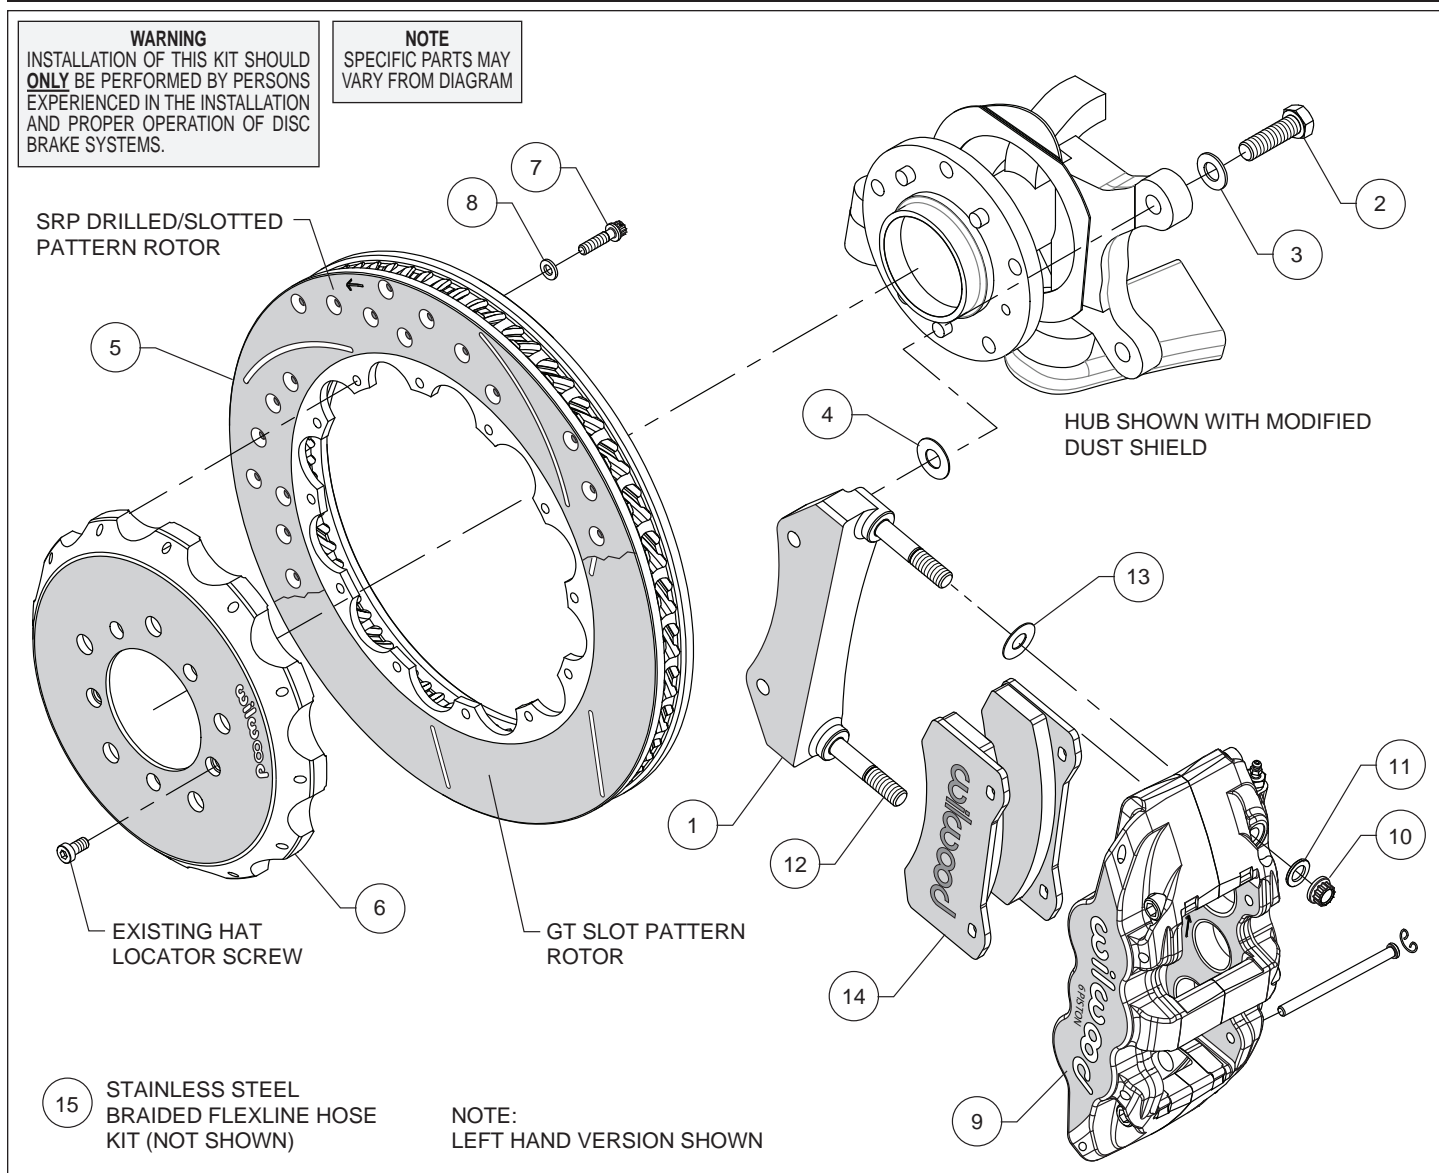
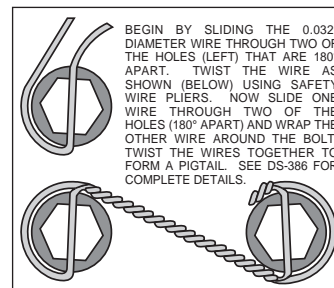

Figure 1. Typical Installation Configuration
Figure 3. Safety Wire Diagram
**Assembly Instructions** (numbers in parenthesis refer to the parts list and Figure 1 on the preceding pages):
- The caliper mount bracket (1) should initially be installed with clean, dry threads on the mounting bolts. Orient the bracket as shown in Figure 1 and Photo 2, and install using bolts (2) and washers (3). Initially place one .033 thick shim (4) on each bolt between the bracket and upright, Figure 1. Temporarily tighten the mounting bolts. **NOTE:** The bracket must fit squarely against the mounting points on the upright. Inspect for interference from casting irregularities, machining ridges, burrs, etc. Later, after the caliper alignment has been checked, the mount bolts will be secured using red *Loctite*® 271.
- Orient the rotor (5) and the hat (6) as shown in Figure 1 and Photo 3. Attach rotor to hat using bolts (7) and washers (8). Using an alternating sequence, apply red *Loctite*® 271 to the threads, and torque to 155 in-lbs. For an added measure of security, the bolts may be safety wired using standard 0.032 inch diameter stainless steel safety wire as shown in Figure 3. Please refer to Wilwood's data sheet DS-386 (available at [www.wilwood.com/Pdf/DataSheets/ds386.pdf](http://www.wilwood.com/Pdf/DataSheets/ds386.pdf)) for complete safety wire installation instructions.
- NOTE:** This kit contains distinct right and left hand calipers that must be mounted in a specific direction, as described below. Lubricate the caliper mounting studs (12) with lightweight oil. Initially place one .030" thick shim (13) on each stud between the caliper and the bracket, as shown in Figure 1 and Photo 5. Mount the caliper (9) onto the bracket (1) using lock nuts (10) and washers (11), Figure 1. Ensure that the caliper is mounted so the largest pistons are at the rotor exit end of the caliper, in relation to the direction of rotor rotation. Temporarily tighten the lock nuts and view the rotor through the top opening of the caliper. The rotor should be centered in the caliper, Photo 6. If not, adjust by adding or subtracting shims (4) between the bracket and the upright. Always use the same amount of shims on each of the two mounting bolts. Once the caliper alignment is correct, remove the bracket mounting bolts (2) one at a time, apply red *Loctite*® 271 to the threads, and torque to 60 ft-lbs.
- Remove the caliper (9) then remove the two pad retaining pins by carefully popping out the pin retaining clips and sliding out the pins. Insert the brake pads (14) into the caliper from the bottom,
Figure 1 and Photo 7. With the friction material facing the rotor, secure the brake pads in place with the pad retaining pins and clips, Photo 8. Reinstall the caliper onto the caliper mounting bracket and temporarily tighten the lock nuts (10). Check that the top of the brake pad is flush with the outside diameter of the rotor, Photo 9. If not, adjust by adding or subtracting shims (13) between the caliper and the bracket. After the caliper pad height is set, torque the caliper lock nuts (10) to 47 ft-lb.